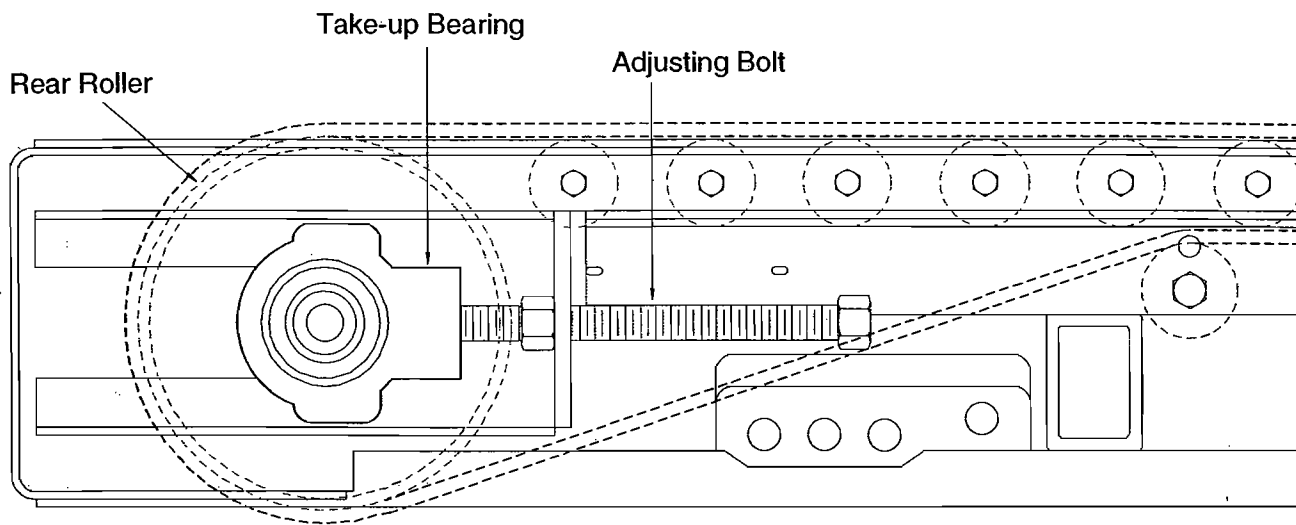

Figure 4.
5. Using the adjusting bolts, move the take-up bearings rearward until all slack is taken up on both edges (Also see figure 4). Keep belt aligned on rollers.